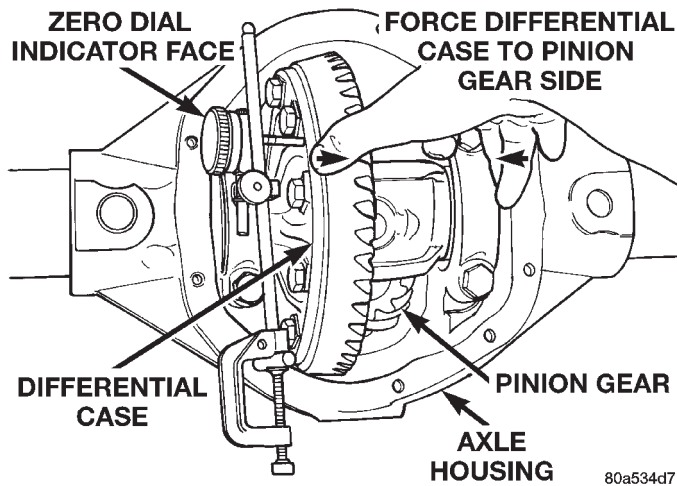

Fig. 68 Hold Differential Case and Zero Dial Indicator
- (21) Push and hold differential case toward pinion gear (Fig. 68).
- (22) Zero dial indicator face to pointer (Fig. 68).